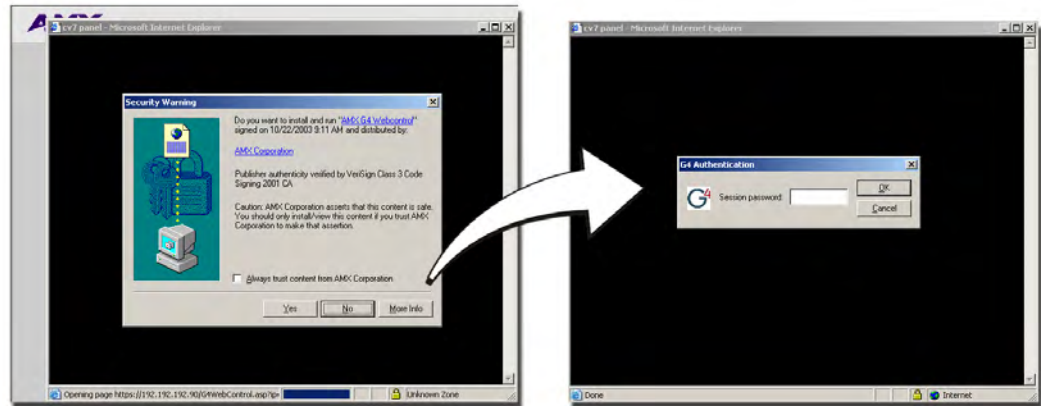

FIG. 60 WebControl VNC installation and Password entry screens
7. Click on the G4 panel name link associated with the target panel. A secondary web browser window appears on the screen (FIG. 60).
10. Enter the WebControl session password into the Session password field (FIG. 60).